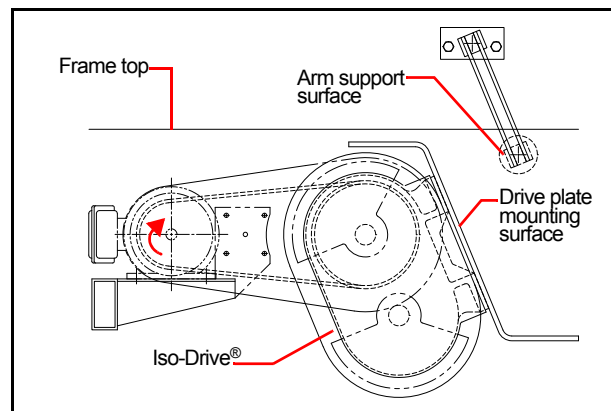

Figure 5-14 Drive Plate Mounting Surface and Arm Support Surface are Parallel
6. Set the arm assembly at the same angle as the drive plate's mounting surface (Figure 5-14). When positioned correctly, clamp the bracket(s) in place and weld.